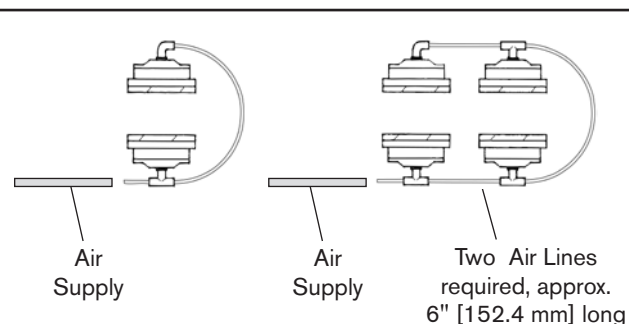

FIGURE 10
1. Install an Elbow Fitting into one caliper half and a Tee Fitting into the other half (See Figure 10).
2. Connect the halves together using the 13-1/2" [342.9 mm] length of Air Line. Push one end of the tube into the elbow. Pass the other end through the 7/16" [11 mm] hole in the Housing and push it into the Tee fitting (See Figure 10).